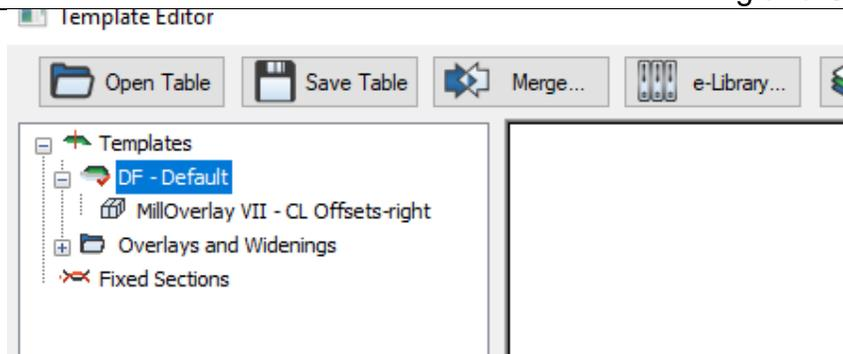

Figure 6 – Default Template with MillOverlay VII on the right side
7. Flip the *MillOverlay VII* object to the right by clicking on it and selecting menu Flip. The *DF - Default* template should now appear as shown in Figure 6 below.